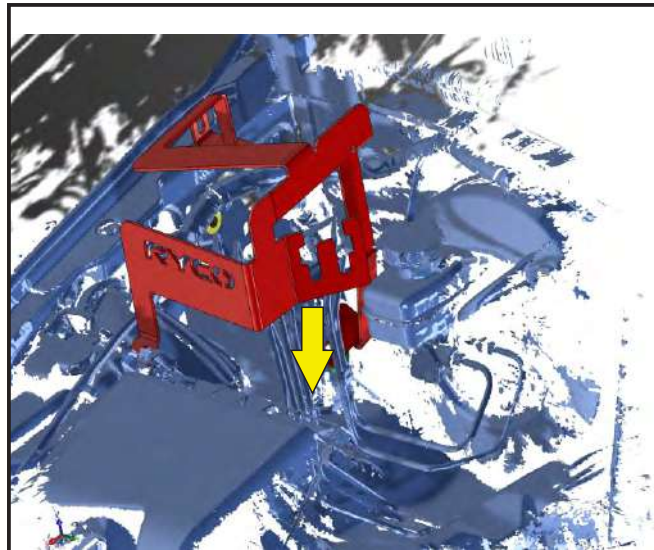

FIG. 9A FB9810CC BRACKET INSTALLATION
5. When fitting the FB9810CC Catchcan bracket as shown in FIG. 9A to 9C, you will be required to manouevre the bracket around engine components.